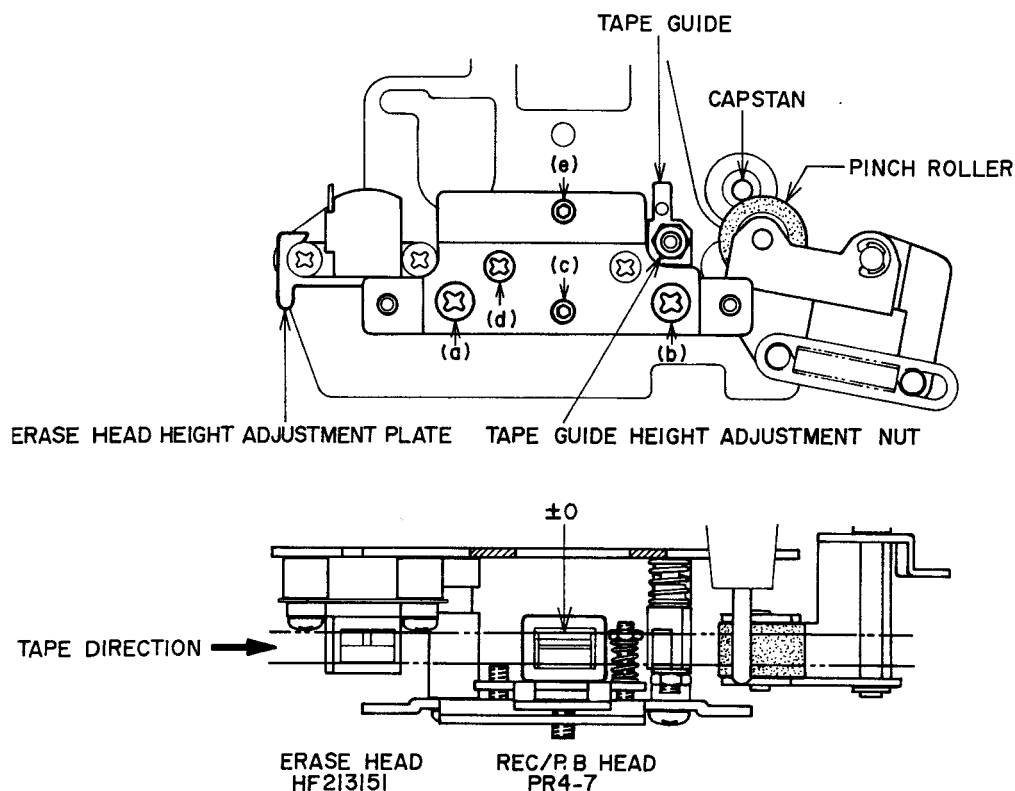

Fig. 12 Head Adjustment
(Refer to Figs. 12, 13)
ADJUSTMENT (Refer to Figs. 12, 14)
### 3. RECORDING/PLAYBACK HEAD HEIGHT ADJUSTMENT (Refer to Figs. 12, 13)
- 2) As shown in Fig. 12, adjust head height with screws (c), (d) and (e) until the upper edge of the tape is the same height as the upper edge of the left channel REC/PB head core.
### 4. RECORDING/PLAYBACK HEAD AZIMUTH ALIGNMENT ADJUSTMENT (Refer to Fig. 12)
- 1) Playback a 10 kHz pre-recorded cassette azimuth alignment test tape and adjust screw (d) shown in Fig. 12 to obtain maximum output on both channels.